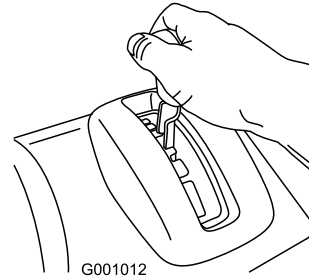

Figure 11
1. Place the speed selector lever to the desired forward position, making sure that it locks in the notch (Figure 11).